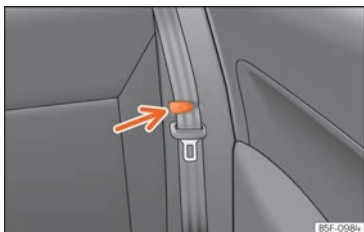

Fig. 162 Clip to support the seat belt.
- Place the side seat belts in the trim clip »» Fig. 162.